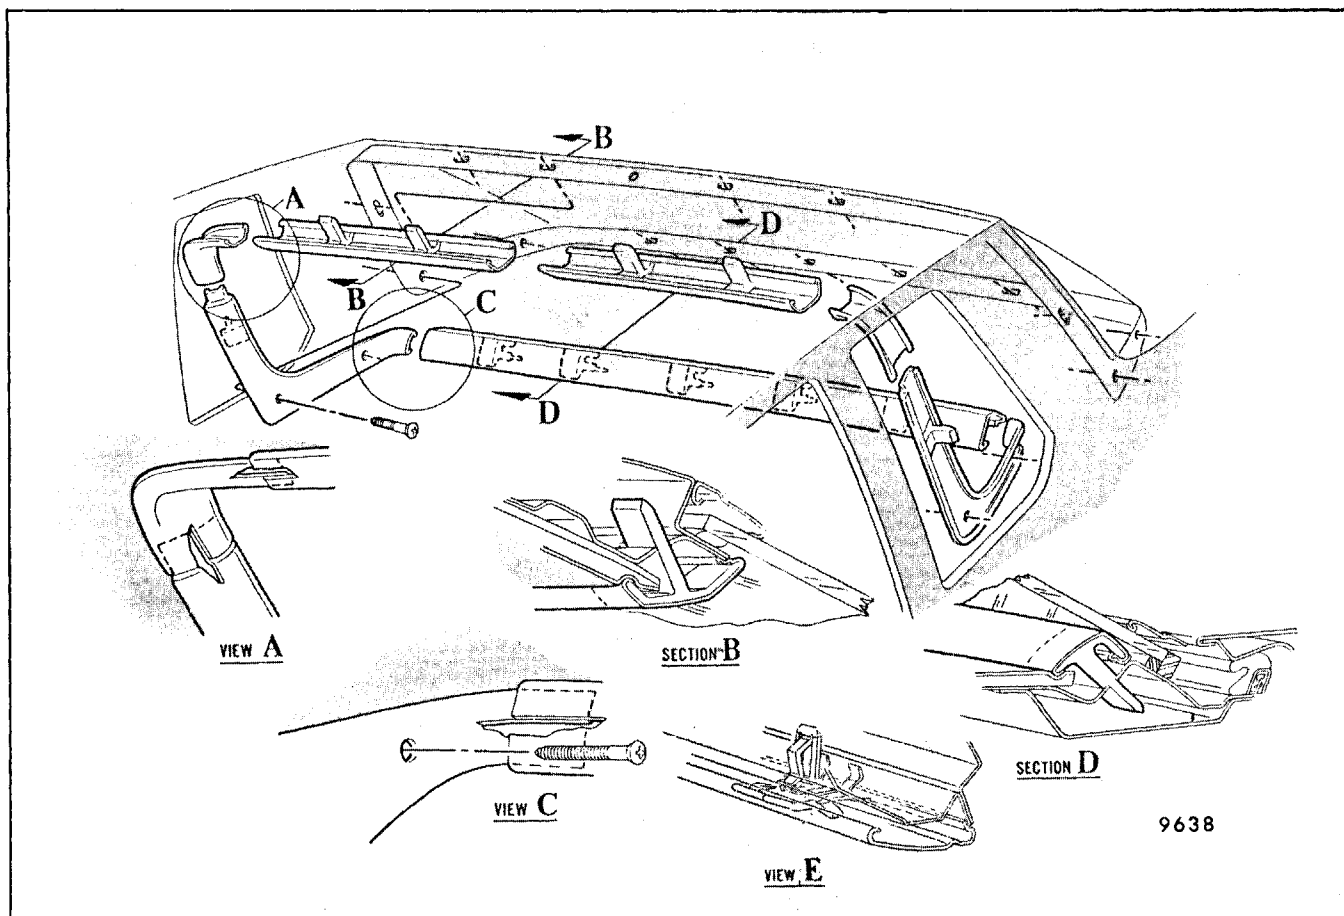

Fig. 8-23 - Back Window Garnish Moldings - B,C Styles (A Styles Similar)
2. Insert a flat-bladed tool between headlining and molding at clip location and carefully pry clip loose from retaining slot (Fig. 8-23).
3. On A styles, remove attaching screws and pull downward on molding. Then insert tool J-24416 or equivalent and depress center tab of attaching clip rearward to disengage clip and molding (view E, Fig. 8-23).
holes in the compartment front panel or rear seat to back window panel (Fig. 8-23).